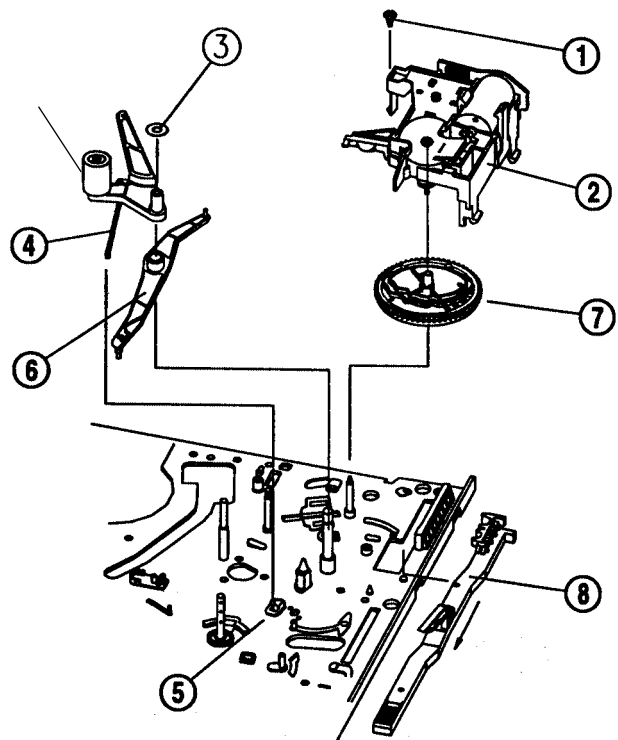

Fig. 22- Replacement of L/C Bracket Total Assembly/Pinch Lever Total Assembly/cam Gear/Relay Lever/F/L Rack
L/C Bracket Assembly removal (Fig. 22)
1. Remove one (1) screw from the L/C bracket assembly and remove the L/C bracket assembly from the deck mechanism (Fig. 22)
Replacement of Pinch Lever Total Assembly Removal (Fig. 22)
Cam Gear, and F/L Rack Removal (fig. 22)